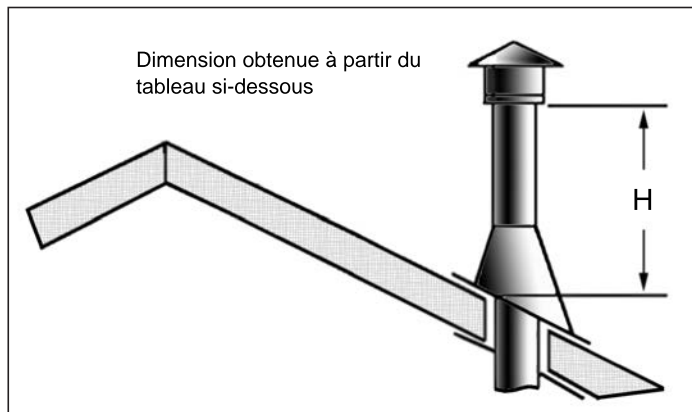

Figure 33: Height of Vertical Termination; Reference Table 7
- Step 8.** Continue to add pipe sections until the height of the vent cap meets the minimum code requirements. Refer to Figure 33 and Table 7. Note that for steep roof pitches, the vent height must be increased. In high wind conditions, nearby trees, adjoining roof lines, steep pitched roofs, and other similar factors can result in poor draft, or down drafting. In these cases, increasing the vent height may solve the problem.
Table 7: Minimum 'H' for Figure 33.